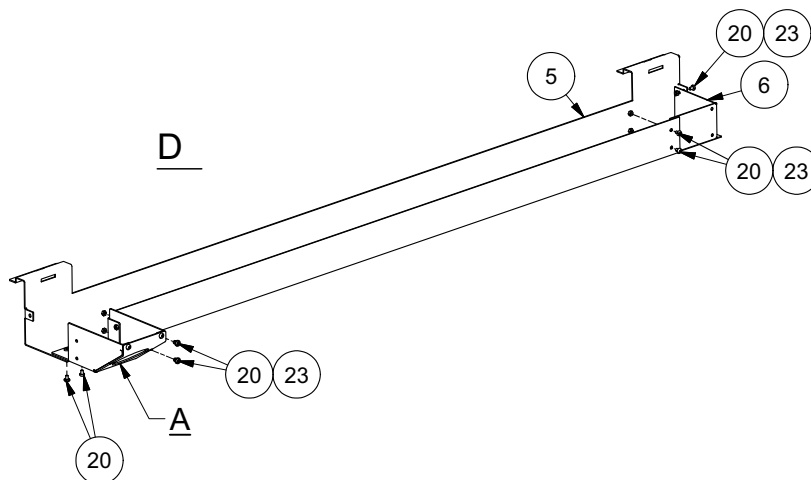

Fig. 4-25 Mounting cable channel
2. Mount the cable channel according to **Fig. 4-25**.